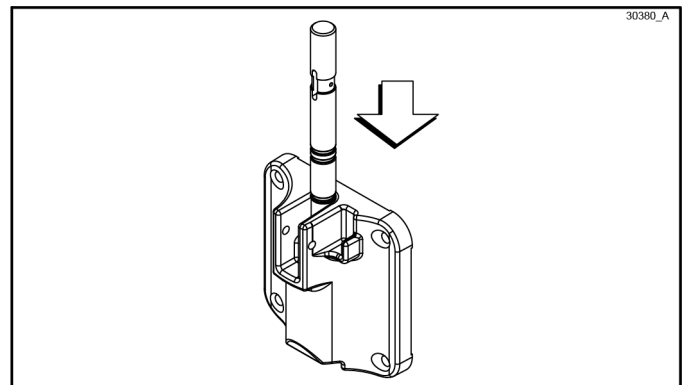

Figure 6-8
9. Insert the (black) draw valve from the top, with the draw handle slot facing forward. (See Figure 6-8.)